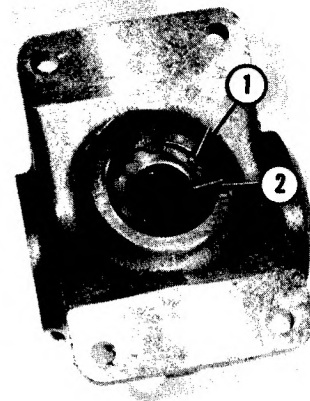

FIG. 10.10--OUTPUT SHAFT SEAL AND RETAINING RINGS INSTALLED
15. Install seal with lip of seal toward inside of gearbox and install another retaining ring, Fig. 10.10.